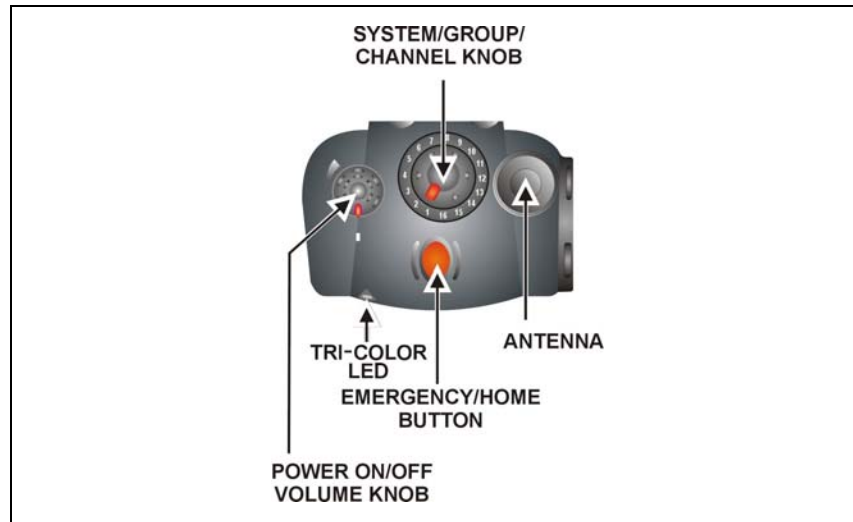

Figure 3: Top View
1. Power ON the radio by rotating the POWER ON-OFF/VOLUME knob clockwise. A short alert signal (if enabled through programming) indicates the radio is ready to use. Refer to Figure 3 for location of the POWER ON-OFF/VOLUME KNOB.